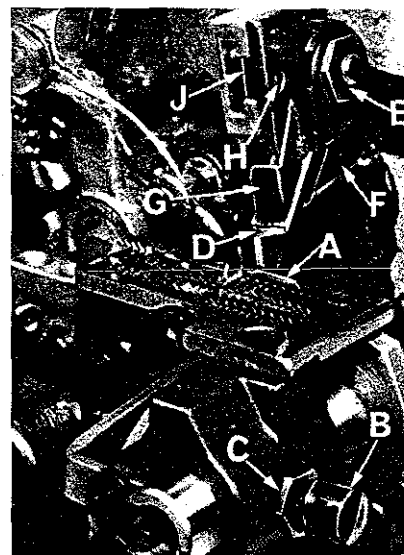

Fig. 13
Replace upper knife assembly. Clamp upper knife (D, Fig. 13) in position, setting nut (E) to hold clamp (F) in its most clockwise position against upper knife. Upper knife chain guard (G) should be positioned so that the guarding section is approximately $1/64$ inch behind the cutting edge and in contact with the top surface of the upper knife.